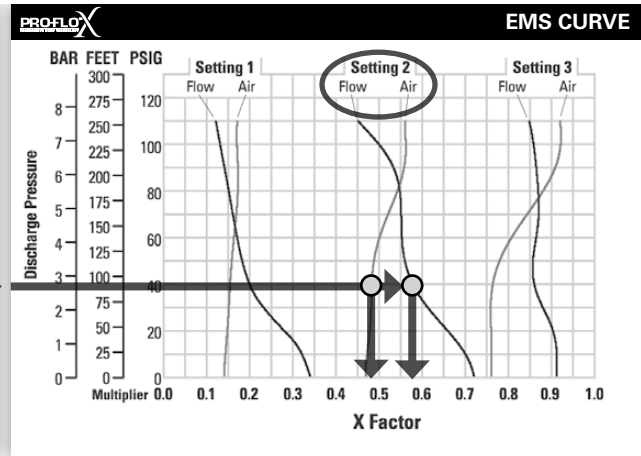

Figure 2
FIGURE 2 When the pressurized diaphragm, diaphragm A, reaches the limit of its discharge stroke, the air valve redirects pressurized air to the back side of diaphragm B. The pressurized air forces diaphragm B away from the center while pulling diaphragm A to the center. Diaphragm B is now on its discharge stroke. Diaphragm B forces the inlet valve ball onto its seat due to the hydraulic forces developed in the liquid chamber and manifold of the pump. These same hydraulic forces lift the discharge valve ball from its seat, forcing fluid to flow through the pump discharge. The movement of diaphragm A toward the center of the pump creates a vacuum within liquid chamber A. Atmospheric pressure forces fluid into the inlet manifold of the pump. The inlet valve ball is forced off its seat allowing the fluid being pumped to fill the liquid chamber.
Step 2: Determining flow and air X Factors. Locate your discharge pressure (40 psig) on the vertical axis of the EMS curve (Figure 2). Follow along the 2.8 bar (40 psig) horizontal line until intersecting both flow and air curves for your desired EMS setting (in this case, setting 2). Mark the points where the EMS curves intersect the horizontal discharge pressure line. After locating your EMS points on the EMS